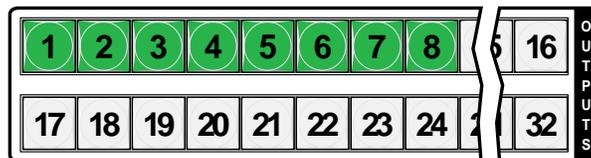

Figure 3-59 — Select an input
- Press and release the Input 5 button (figure 3-59).
Figure 3-60 shows the same level (+8 dB) as in figure 3-59, but displayed on a 16-output-button switcher, such as a MAV Plus 816.
Figure 3-61 shows the same level (+8 dB) as in figure 3-59, but displayed on a 8-output-button switcher, such as a MAV Plus 84 HDA.